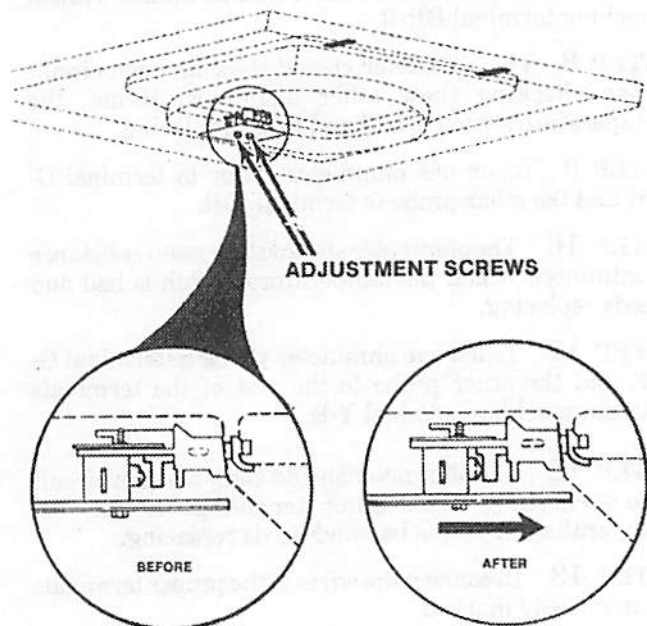

Fig. 7.
After replacing any of these parts or the lid switch, the following adjustment **MUST** be made. First, with lid taped closed, loosen the two (2) screws which hold switch to bracket. Adjust by pushing switch toward actuator until switch button is completely depressed by actuator, then tighten screws to secure. See Fig. 7.